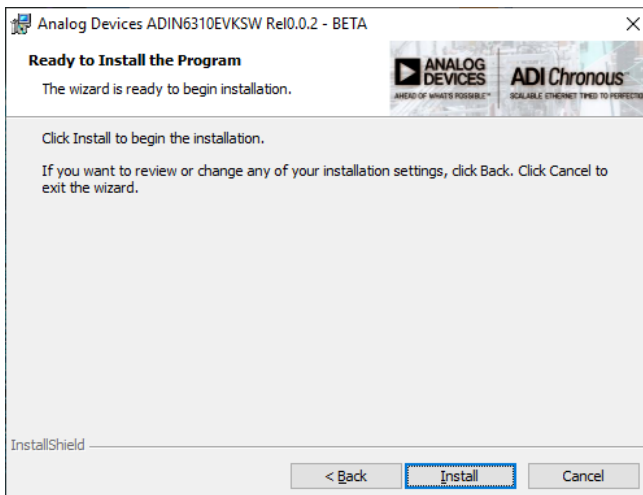

Figure 6. Installation Begins
- At the next step, click **Install** (see Figure 6).